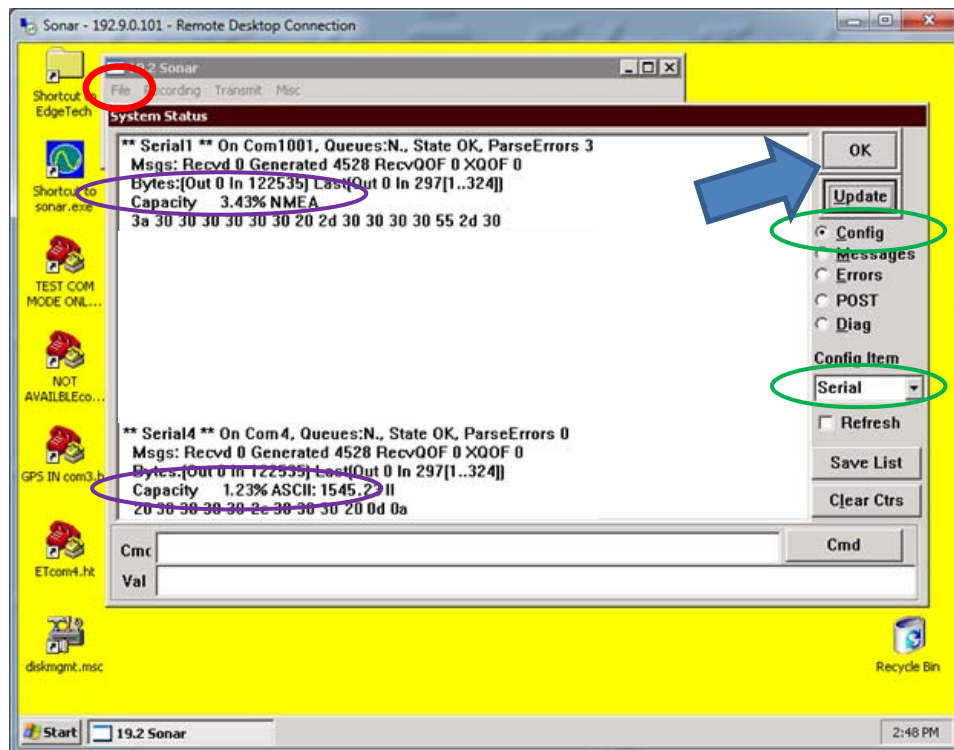

Fig. 8 - Checking Sensor Status
11. Now click on **File > Show Status** in the sonar window (circled in red, Fig. 8).
8. Now click on **File > Show Status** in the sonar window (circled in red, Fig. 8, pg A6).
9. On the right hand side of the window, click on the **Config** bullet under the **Update** button and then on the drop down menu named **Config Item** (in green, Fig. 8, pg A6).
10. Select **Serial** and then click on the **Update** button several times (blue arrow, Fig. 8, pg A6).
11. Check to make sure the sensors' usage percentages are well below 80% (circled in purple, Fig. 8, pg A10). If they are not, increase the baud rate of the sensor, change the baud rate under **Serial Port Information** as done before in steps 6 and 7, and check the **Status** again, otherwise the sonar will report errors.